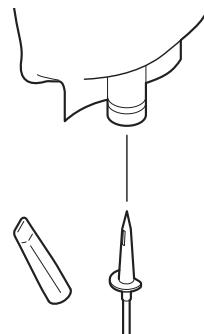

Figure 91 – Irrigation Bag Connection
5. Remove the protective cover from the irrigation tubing spike (Figure 91).